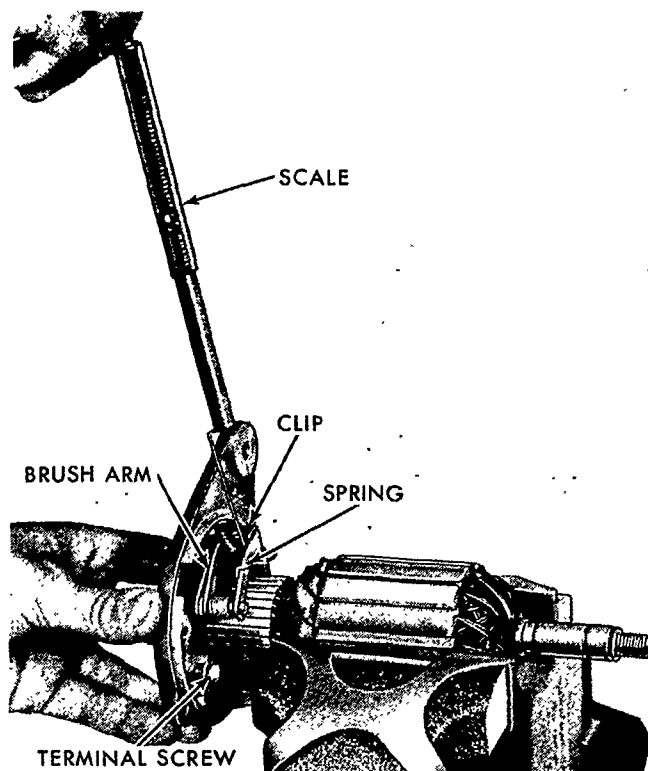

Figure 16
1. Remove the terminal screws and lock washers, Figure 16.